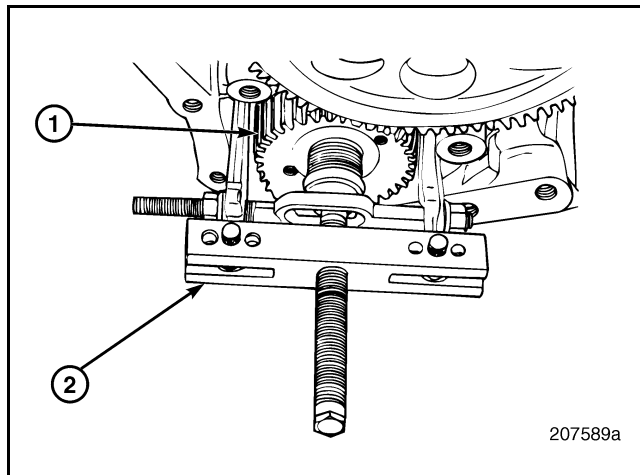

Figure 175 — Auxiliary Shaft Gear Removal
2. Using a suitable puller such as J 4558-01, remove the auxiliary shaft gear from the splines on the end of shaft (Figure 175).